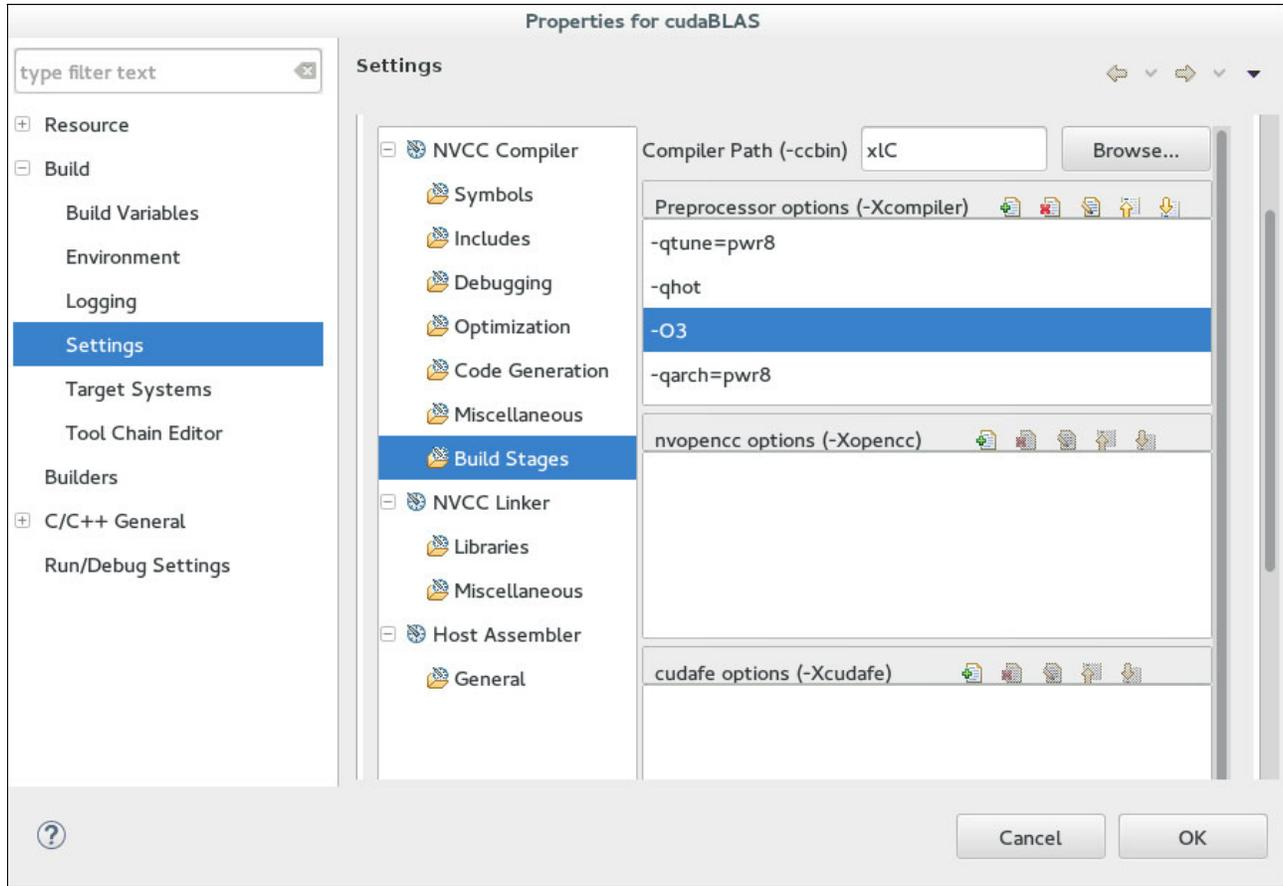

Figure 4-36 Nsight - new CUDA C/C++ project build settings
- As an optional step, set the host compiler that is evoked by `nvcc`. Right-click the project name and select **Properties**. Expand **Build**, and then choose **Settings**. Click the **Tool Settings** tab and select **Build Stages**. Enter the necessary information in the Compiler Path and Preprocessor options fields (see Figure 4-36). Change the content of the **Compiler Path** under the Miscellaneous section of the NVCC Linker window.